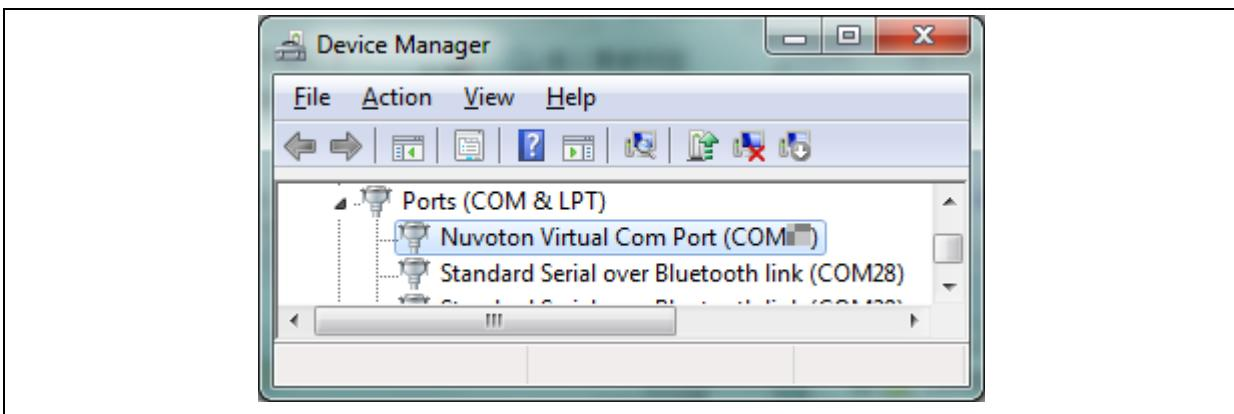

Figure 5-5 Device Manger
3. Find the “Nuvoton Virtual COM Port” on the Device Manger as Figure 5-5.